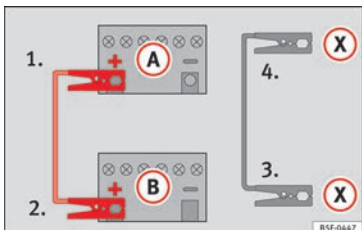

Fig. 77 Diagram of connections for vehicles with Start Stop system
– *For vehicles with Start-Stop system:* connect one end of the *black* jump lead (X) to a suitable ground terminal, to a solid piece of metal in the engine block, or to the engine block itself » » Fig. 77.
5. Connect the other end of the *black* jump lead (X) to a solid metal component bolted to the engine block or to the engine block itself of the vehicle with the flat battery. Do not connect it to a point near the battery (A).